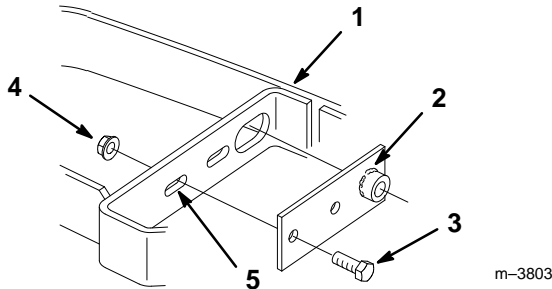

Figure 10
1. Place hopper tilt brackets inside bumper with tube weld away from the opening. Secure to bumper with (4) 3/8–16 x 1" (26 mm) bolts and (4) 3/8–16 flange locknuts (Fig. 10).
6. Adjust tilt brackets in slots (Fig. 10) so chute opening and hopper opening align at the front.